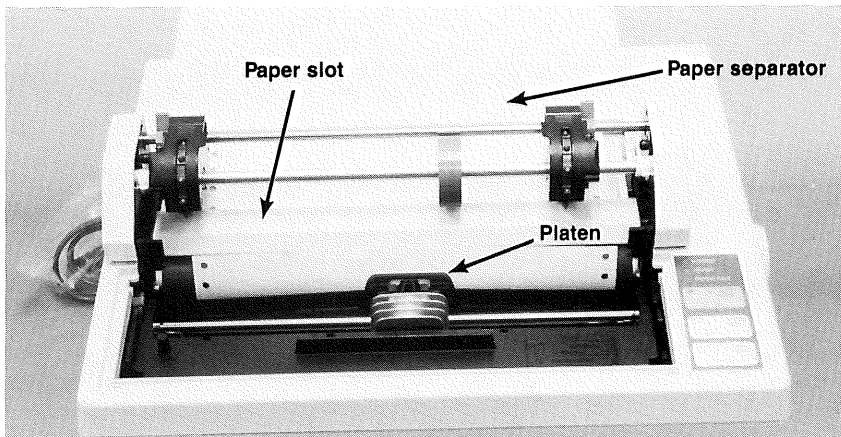

Figure 23.
37. Guide the paper around the back of the printer and under the paper separator. Push the paper through the paper slot on the top of the printer, until it comes through between the platen and the paper roller. See Figure 23.